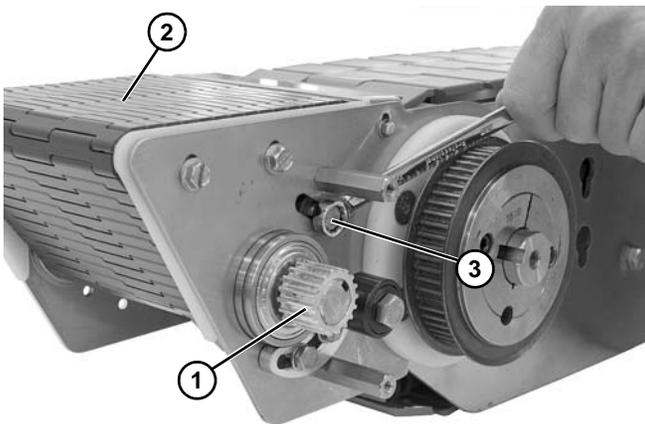

Figure 78
- Rotate drive shaft (**Figure 78, item 1**) to verify tightness of belt (**Figure 78, item 2**). Belt should turn freely. Loosen hex head screw (**Figure 78, item 3**) and adjust, if necessary.